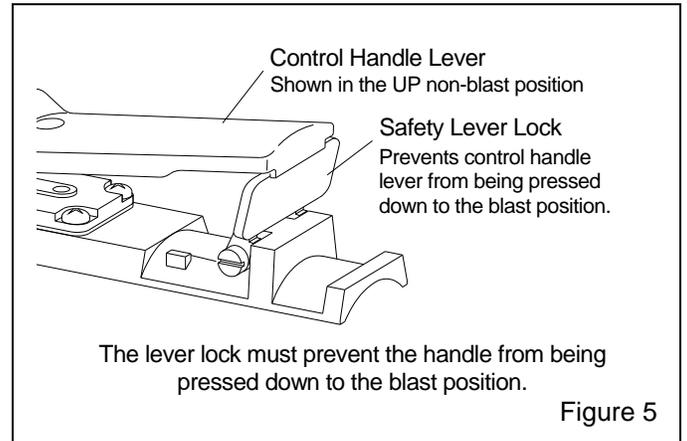

Figure 5
3.1.5 Make sure that the control handle lever is in the up (no blast) position, as shown in Figure 5, and that the handle lever and safety lock move freely.